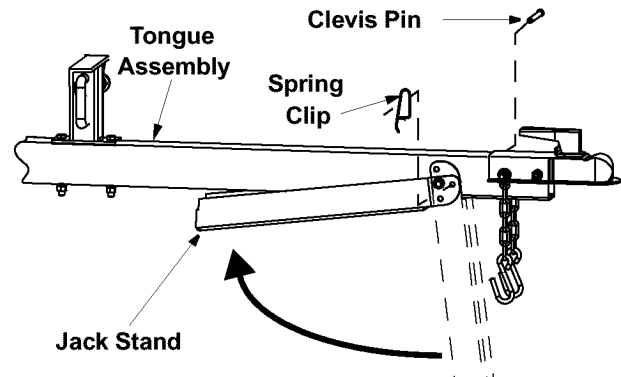

Figure 15
- Support the tongue and pivot the jack stand up against the tongue. See Figure 15.
- Secure with the spring clip and clevis pin previously removed. See Figure 15.